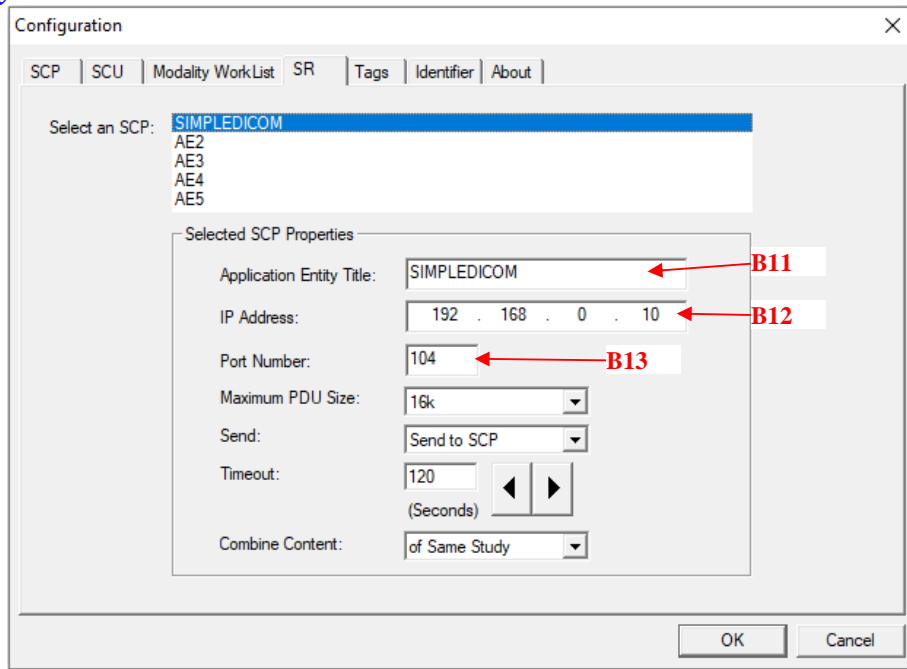

Figure 28
2.2.10. Enter the information from sections B11, B12, and B13 from the DICOM worksheet as shown in Figure 28.